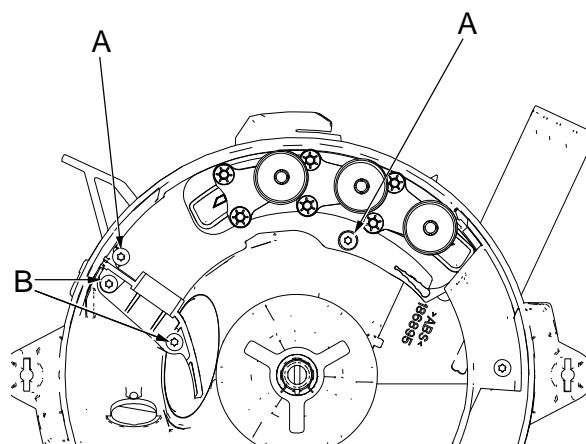

Figure 6.23
1. Move the singulator to the end position, see "Figure 6.23".
2. Remove the two screws (B) that holds the grid, and remove the grid.
3. Remove the two screws (A), and pull the singulator straight out.